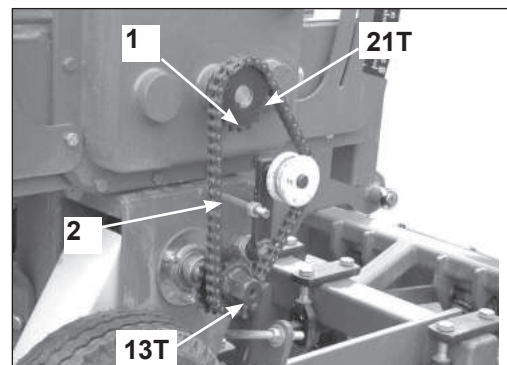

Fig 15
Release the tension on the chain (1) by forcing back the chain tensioner (2) and hold in place with the crank handle. Refer Figure 15. Remove the chain from the 21 tooth output sprocket to the 13 tooth sprocket, then remove the chain from the 13 tooth gearbox sprocket to the 21 tooth. Check the chain is correctly aligned then release the chain tensioner. Ensure the tension roller is correctly aligned with the chain. Replace guard and calibrate as required.